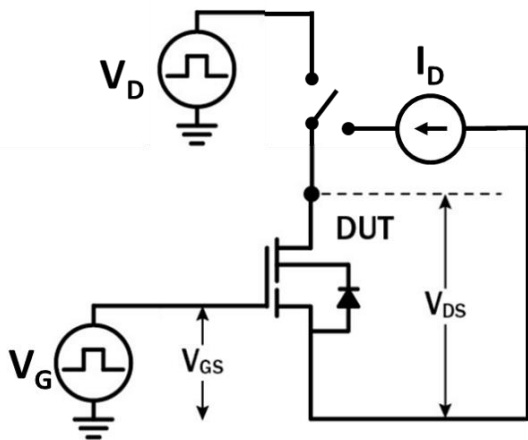

Figure 19. Dynamic $R_{DS(on)eff}$ Test Circuit
- f. Dynamic $R_{DS(on)}$, 100% tested; see Figures 19 and 20 for test circuit and conditions